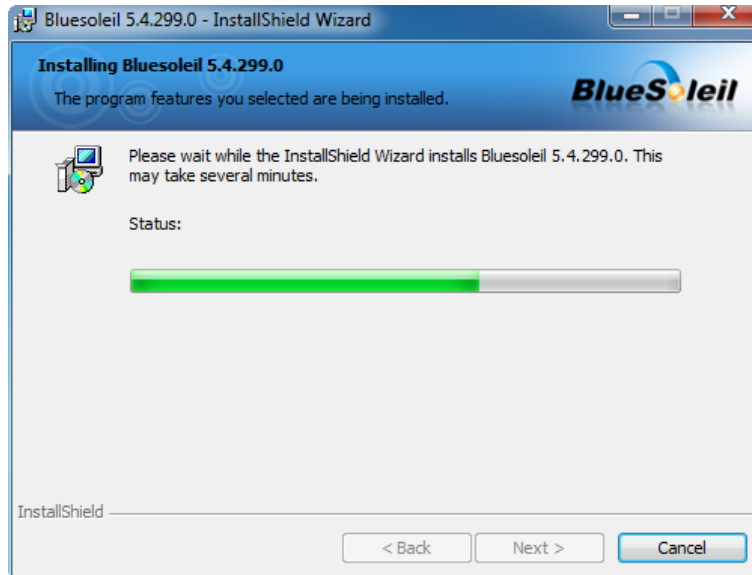

Figure 5-44: Installing BlueSoleil
Step 11: The installation screen appears and displays the progress of the installation (Figure 5-44).